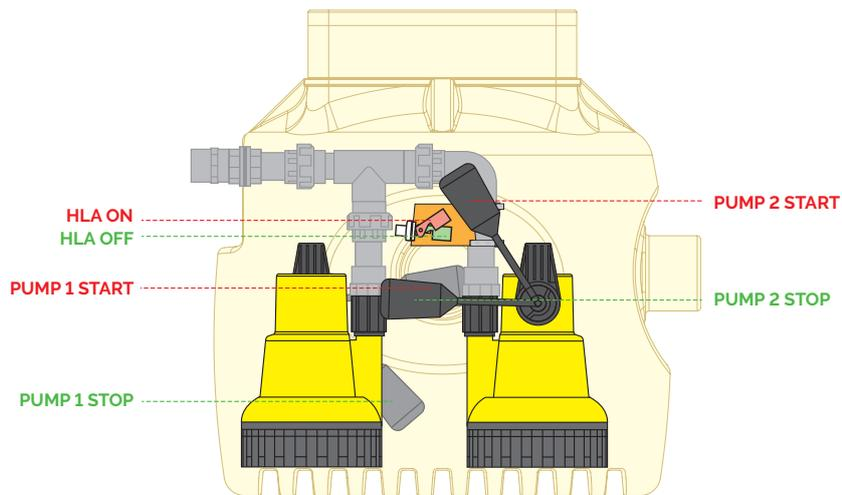

Figure 4. Delta Broken Finger Float on and off positions.
1. The Delta Broken Finger Float should be positioned between the activation points of the two pumps, as shown in Figure 4. This will cause the alarm to trigger if Pump 1 has failed, before Pump 2 empties the chamber. This periodic triggering is a useful indicator that there is a fault in the pumping station.